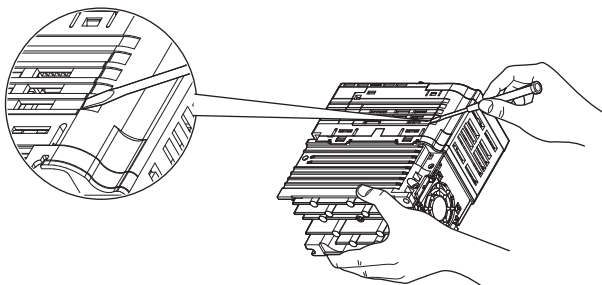

Figure 8 Removing the Cable-access Cover on the Drive
1. Insert a flat-blade screwdriver blade into one of the slots on the drives cable-access cover and gently pry up to loosen and remove the cover as shown in Figure 8.